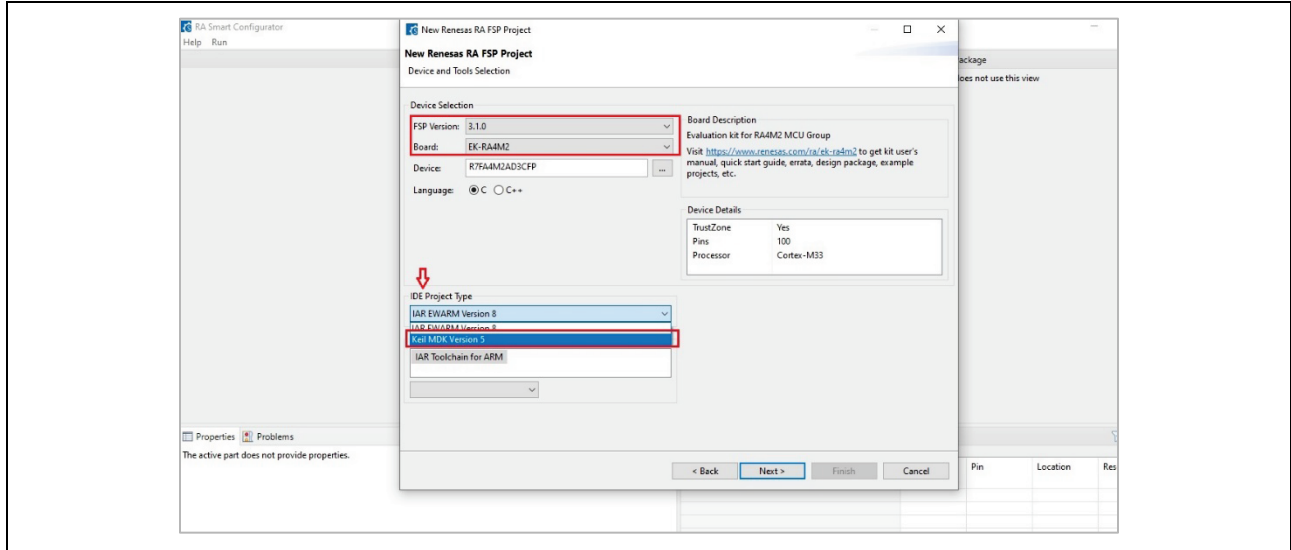

Figure 33. Select Project Type
- The next step is to select the required FSP version and board. The project type of the particular IDE can be selected in this step as shown in Figure 33. Select **Keil MDK version 5**.